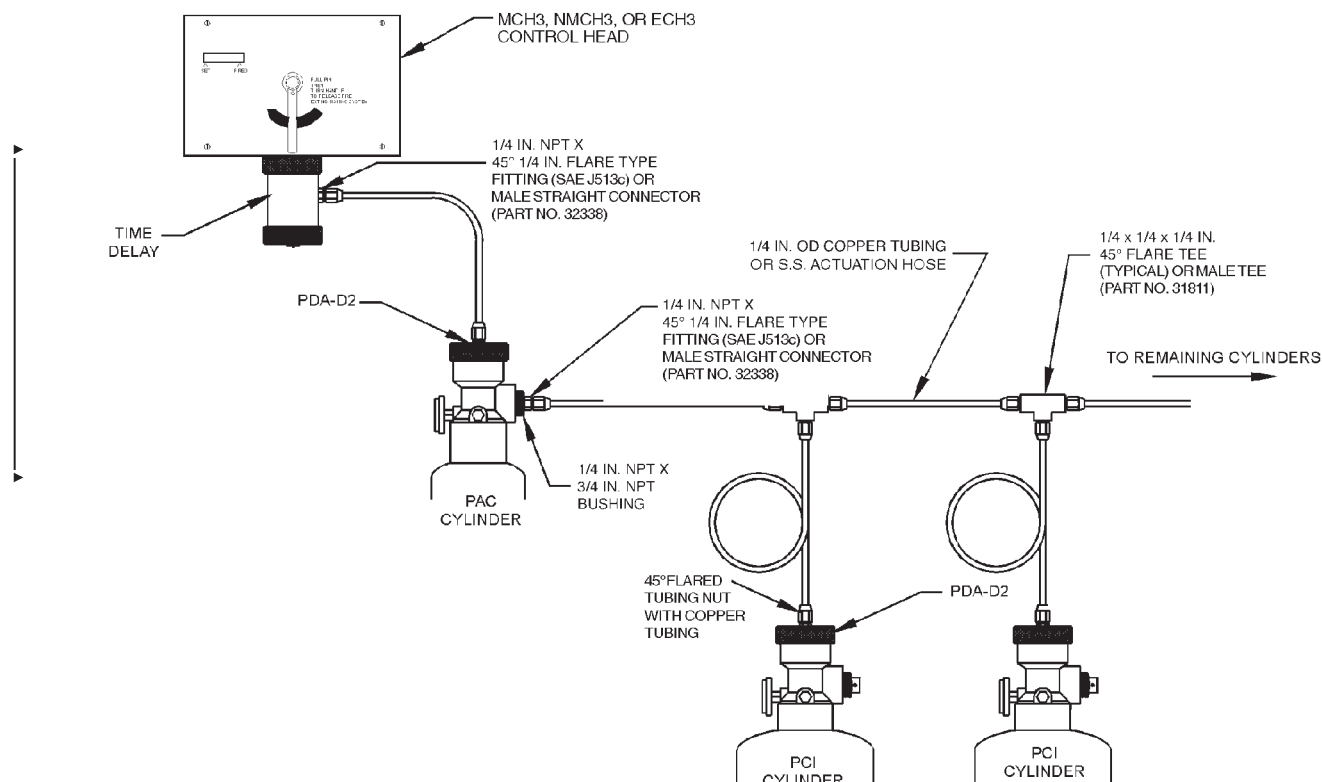

Figure 4-5. Multiple Cylinder Actuation Using Model PAC-10 or PAC-200
- In order to actuate the agent cylinders from a Model PAC-10/200 Pneumatic Actuation Cylinder, a 3/4 in. NPT x 1/4 in. NPT bushing must be screwed into the pneumatic cylinder's discharge port. A 1/4 in. NPT x 45° 1/4 in. flare type fitting (conforming to SAE J513c) must then be screwed into this bushing. The male straight connector (Part No. 32338) is used with stainless steel actuation hose. Also, a Model PDA-D2 Pneumatic Discharge Adaptor must be installed on the valve of each agent cylinder. Pneumatic tubing is then used to connect the PAC-10/200 pneumatic cylinder to the PDA-D2 of each agent cylinder. **See Figure 4-5.**